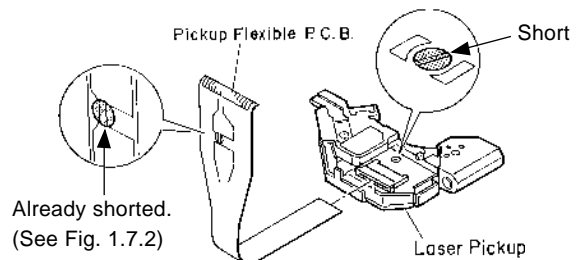
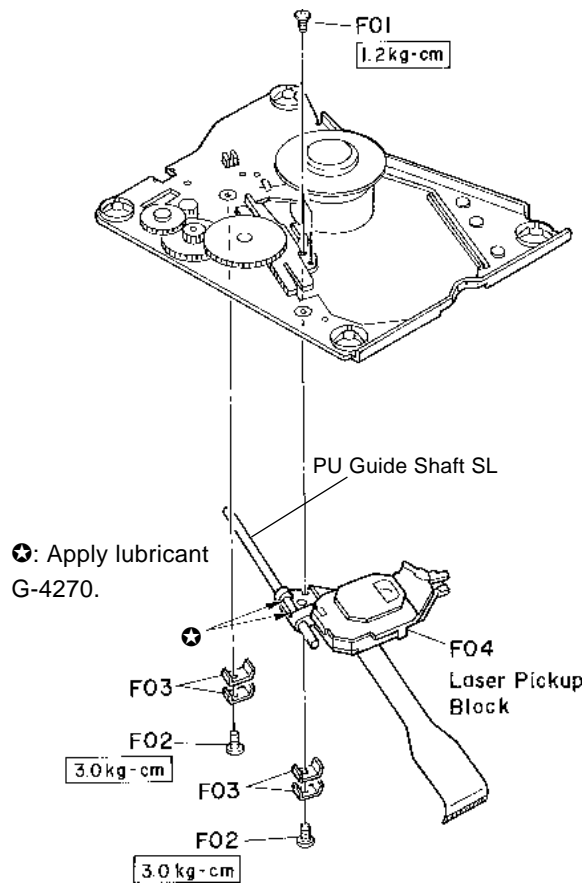

Fig. 1.8.2
Fig. 1.8.1
Refer to Fig. 1.8.1.
- (1) Remove the Traverse Mecha Ass'y. Refer to item 1.7.
- (2) Remove screws F01 (M1.7x4 + Pan, 2 pcs.) and F02 (M2.6x3.5 + Pan, 2 pcs.), and F03 (4 pcs.), and disassemble F04 (Laser Pickup Block).
- (3) Pull out the PU Guide Shaft SL from the Laser Pickup Block.
- (4) **Before** disconnecting the Pickup Flexible P.C.B. from the Laser Pickup, short the laser diode shorting lands on the bottom of the Laser Pickup. Refer to Fig. 1.8.2.
- (5) Disconnect the Pickup Flexible P.C.B. from the Laser Pickup.
- (1) Connect the Pickup Flexible P.C.B. to the new Laser Pickup. Refer to Fig. 1.8.2.
- (2) Open the laser diode shorting lands on the bottom of the Laser Pickup.
- (3) Insert the PU Guide Shaft SL into the Laser Pickup.
- (4) Assemble F04 (Laser Pickup Block) with F03 (4 pcs.) by tightening screws F02 (2 pcs.) with a torque of 3.0 kg-cm.
- (5) Assemble F04 (Laser Pickup Block) with screws F01 (2 pcs.) with a torque of 1.2 kg-cm. Refer to Fig. 1.8.1.